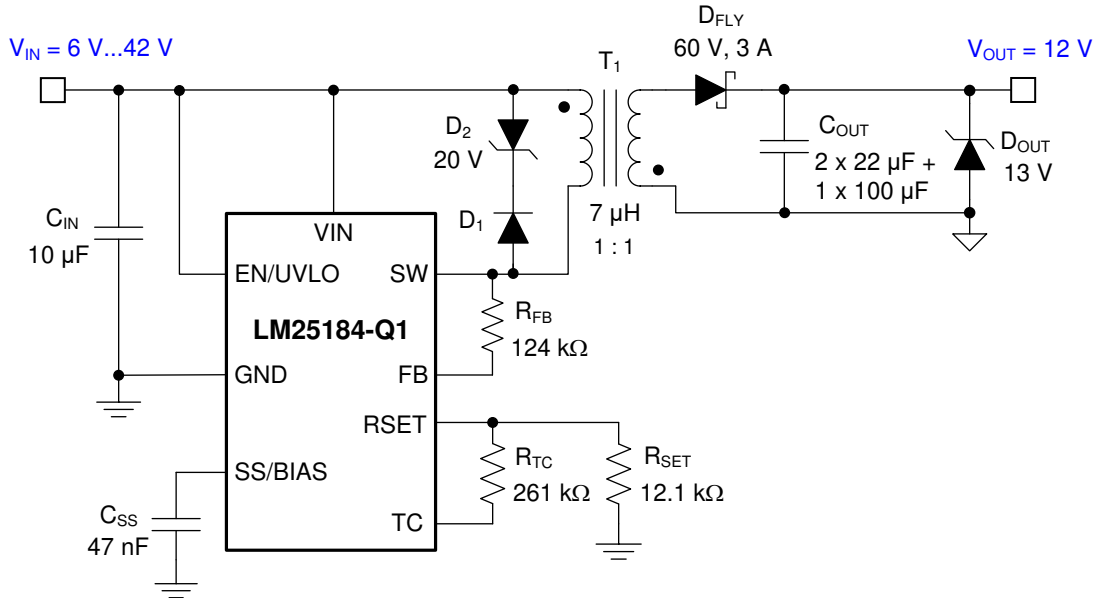

Figure 1. LM25184-Q1 PSR Flyback Converter Schematic
Figure 1 shows the schematic of an LM25184-Q1 PSR flyback converter (EMI filter stage not shown). Soft start (SS), temperature compensation (TC), and UVLO (EN/UVLO) components are shown and are configurable as required for the specific application.